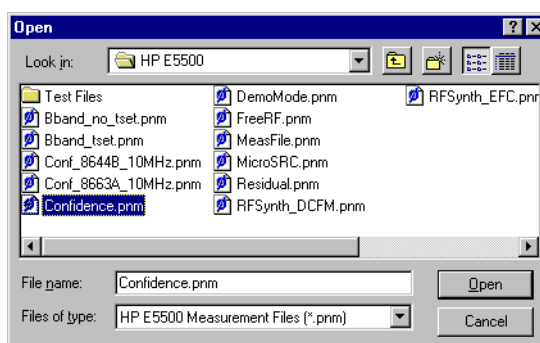

Figure 3-3 Opening the File Containing Pre-stored Parameters
- 3 In the **File Name** box, choose **Confidence.pnm** (Figure 3-3).